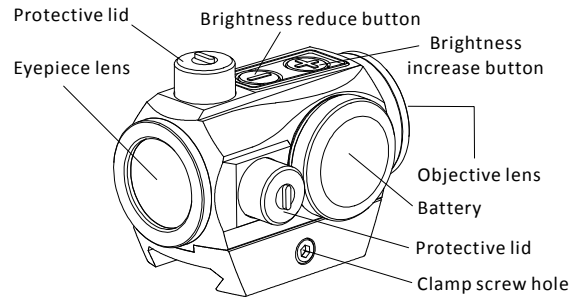

Fig1 PARALOW HS403G Red Dot Sight
3. First open the protective cap (see Fig1), position slot type screwdriver on the slotted screw, then rotate the screw to right or left for adjustment. Each left or right click is for one shift moving equivalent to 0.5 MOA value.